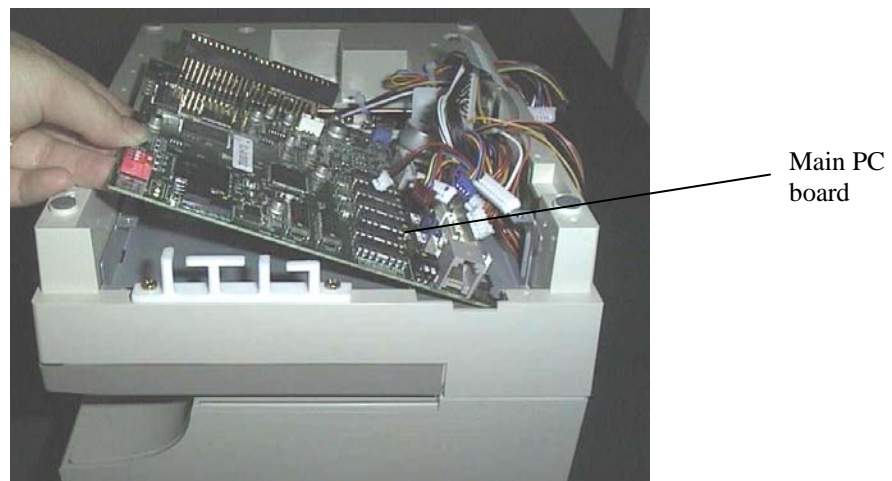

Figure 6 – Removal of Main PC Board
- Move the Main PC board slightly to the right to clear the screw hole, lift it out of the printer from the left and place it somewhere safe. (Figure 6)